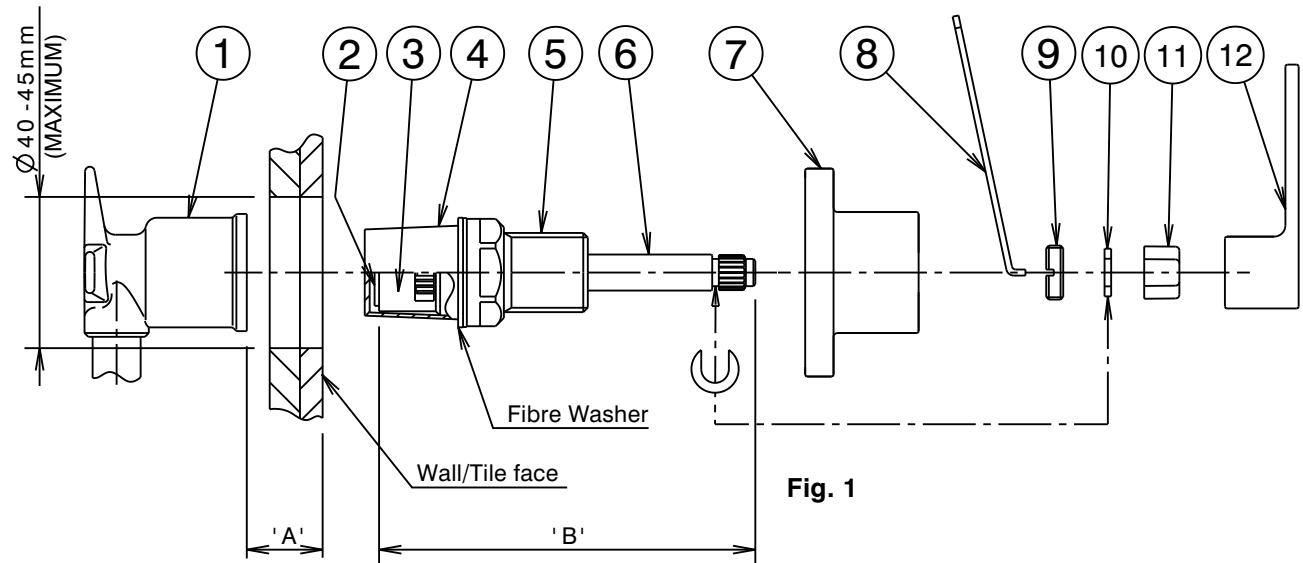

Fig. 1
- 1) Check in-wall depth (dimension 'A' in Fig.1) to ensure correct length cartridge (3) has been selected (see Table 1).
- 2) Check seats in recess tap bodies (1) are in good condition and free of foreign materials. Reseat if required.